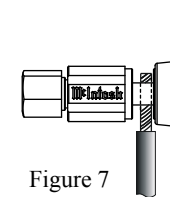

Figure 7
12. Connect the Loudspeaker hookup cables to the MC462 Negative Output Terminal and Positive Output Terminal identified as 2Ω (ohms), 4Ω (ohms) or 8Ω (ohms) connection to match the impedance of the Loudspeaker, being careful to observe the correct polarities. Insert the spade lug connector or prepared section of the cable end into the terminal side access hole, and tighten the terminal cap until the cable is firmly clamped into the terminals so the lugs or wire cannot slip out. Refer to figures 7 and 8.